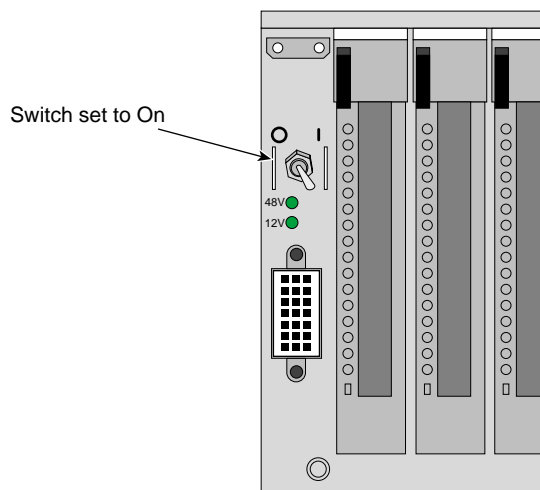

Figure 1-1 Power Switch "On" Setting
2. For each individual brick that you want to power on, make sure that the **PWR** (power) switch is set to the **1** (on) position, as shown in Figure 1-1 for the IX-brick. This will start the L1 controller(s) for the brick(s) when the brick(s) are powered on. The 12-VDC LED on an individual brick illuminates green when an L1 controller has powered on successfully.